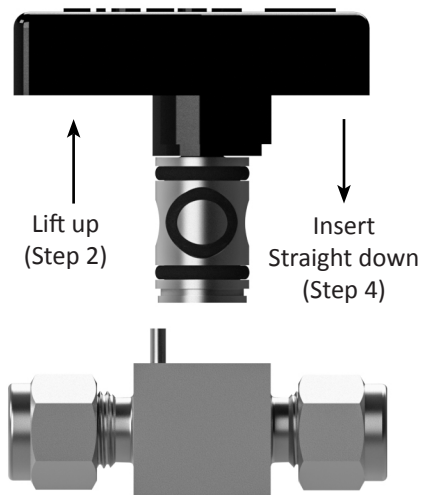

Figure 3
4. Remove protective sleeve from new plug. Insert plug straight down into body. See Figure 3
2. Lift up handle to remove plug, remove the O-Rings from the plug, and discard O-Rings. See Figure 3
4. Insert plug straight down into body. See Figure 3